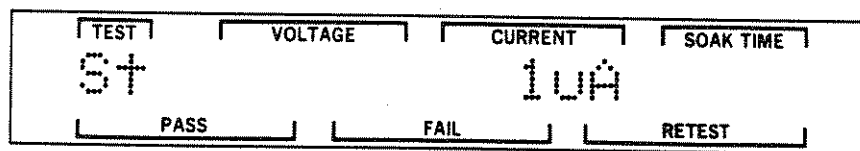

Figure 7-64. Stress Leakage Current Screen
- STEP 18. Press the RIGHT pushbutton twice to allow the Stress Leakage Current to be set. Refer to Figure 7-64 for an illustration of this screen.